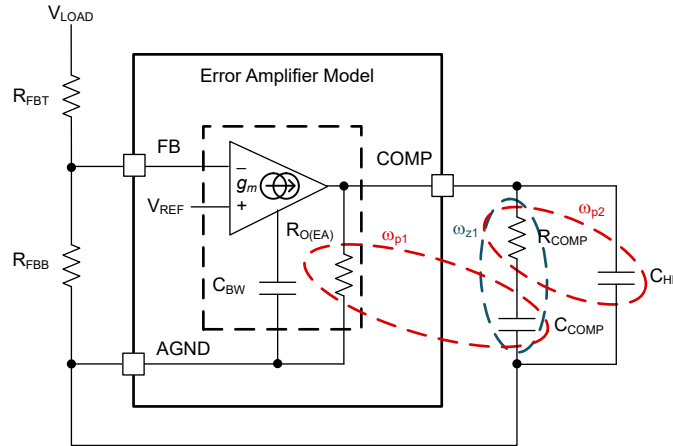

Figure 7-3. Error Amplifier and Compensation Network
Figure 7-3 shows a type-II compensator using a transconductance error amplifier (EA). The dominant pole of the EA open-loop gain is set by the EA output resistance, $R_{O(EA)}$, and effective bandwidth-limiting capacitance, C_{BW} , as shown by Equation 35.